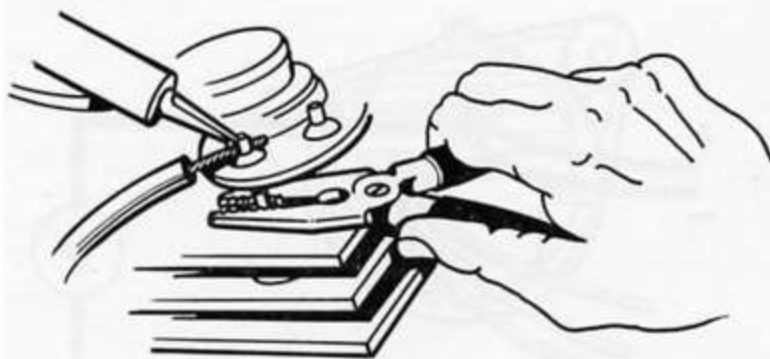

Fig. 58
4. Grip the output diode pins in turn with a pair of long-nosed pliers, see Fig. 58. Unsolder the three leads connecting the stator to the diodes. Note the order in which the connections are made.
When re-soldering the stator cables to the diode pins, use a low melting point "M" grade 45/55 tin-lead solder or equivalent. Avoid overheating the diodes or bending the diode pins. The diode pins should be lightly gripped with a pair of long-nosed pliers, or similar tool (to act as a thermal shunt against overheating) and soldering must be carried out as quickly as possible, see Fig. 58.